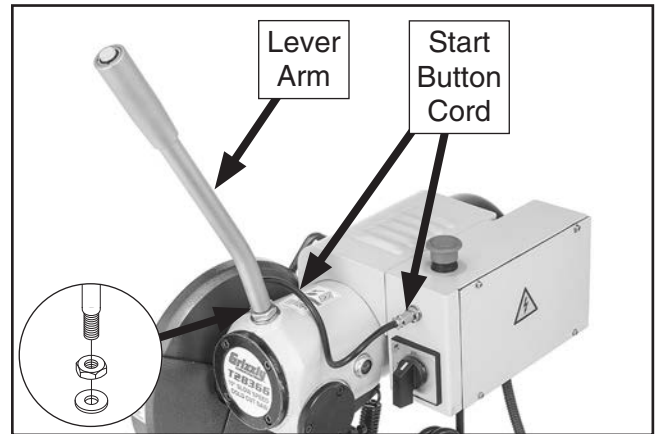

Figure 15. Lever arm and trigger button cord installed.
3. Thread lever arm into headstock as far as it goes, then back it off less than a full turn to position it so start button cord is on top of lever arm, as shown in **Figure 15**, then tighten hex nut to secure lever arm.
4. Connect start button cord to control box (see **Figure 15**).